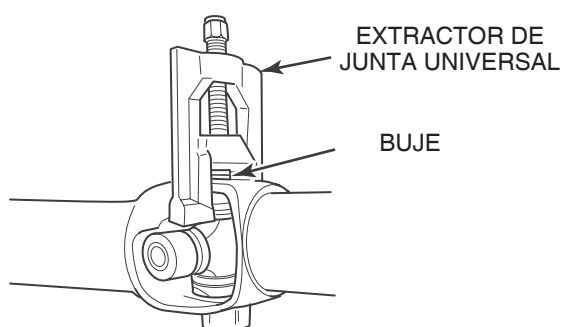

Figura 8.13
1. Position the universal joint in a suitable universal joint puller. Refer to the Service Notes page on the front inside cover of this manual for information to obtain this tool. Figura 8.13.